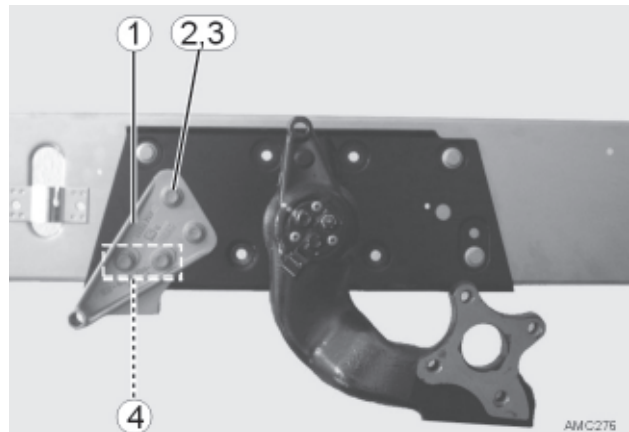
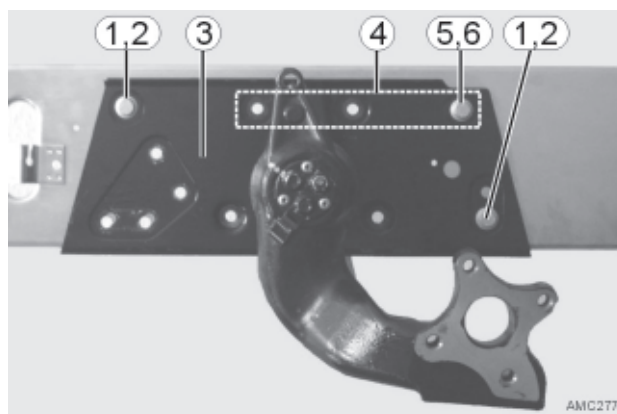

Fig. 57
Fig. 58
7. Unscrew four M12x1.5 conternuts (Fig 57-2) from the inside of the frame, remove the angle (Fig 57-4), remove the M12x1.5x40 hexagon nuts (Fig 57 -3 ) with shock absorber mount (Fig 57-1).
8. Remove M12x 1.5 conternuts (Fig 58 -5) from the inside of the frame and take out M12x1.5x35 hexagon bolt (Fig 57 -2).
10. Unscrew two M12x1.5 conternuts (Fig 58 -1) from the inside of the frame, remove M12x1.5x65 hexagon bolts (Fig 58 -2) and remove the complete axle (Fig 58-3).